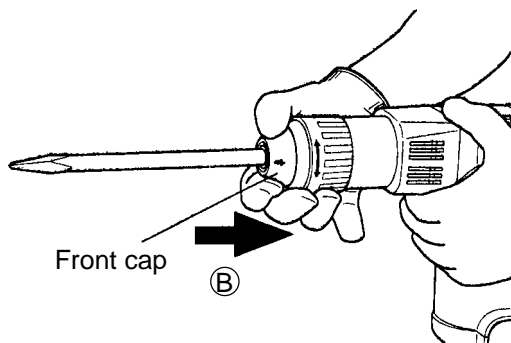
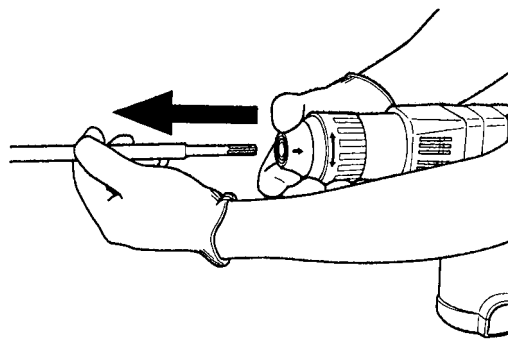

Fig. 7
Fig. 8
Check the latching by pulling on the tool. When removing the tool, pull Front Cap in (B) direction (Fig. 7), and pull out the tool (Fig. 8).